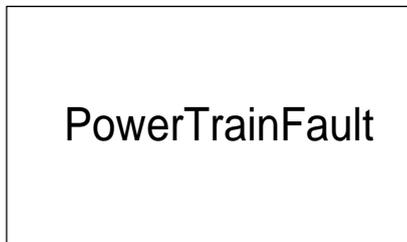

Figure 4-4 Self-check fails
(5) If “PowerTrainFault” is indicated on the LCD, as shown in Figure 4-4, check whether the DC circuit breaker is turned on. Then check whether the inverter is in “ON State” according to “6.3.6 System setup”. If the fault still occurs when the DC circuit breaker is turned on and the inverter is “ON State”, turn off the AC and DC circuit breakers immediately and then contact our after-sales service personnel.